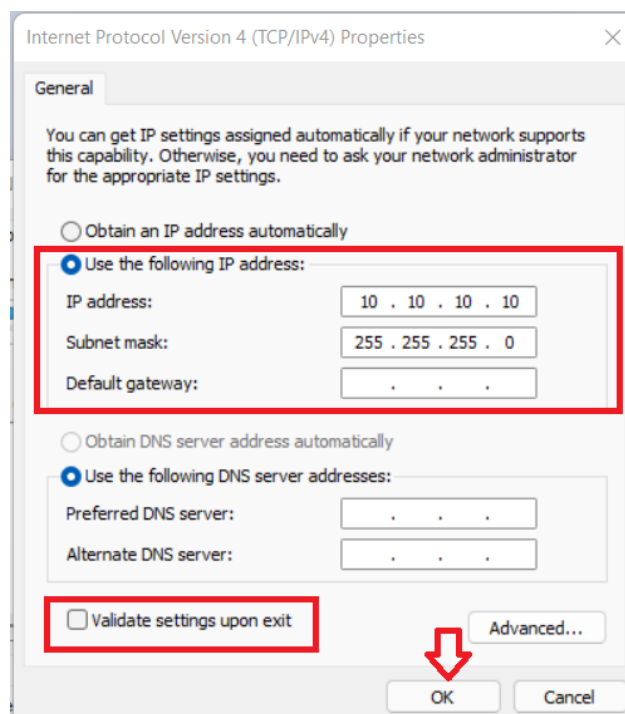

Figure 8: Network settings that need to be set prior to running the machine
- 5- On the pop up Internet Protocol Version 4 (TCP/IPv4) properties window select the “Use the following IP address” option and fill in the IP address of the CNC Controller and set the Subnet mask as shown. The default IP address of the is 10.10.10.10 (this can be changed, refer to the CNC Controller manual for more details) and set the subnet mask to 255.255.255.0 value. Figure 8 shows the IPV4 network IP address that needs to be set.